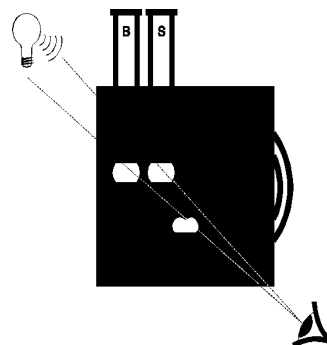

Figure 3, Comparing the Blank and the Sample
- Elevate the color comparator to eye level up to a light such as the sky, window, or lamp, rotating disk until the closest match is achieved. (See Figure 3).